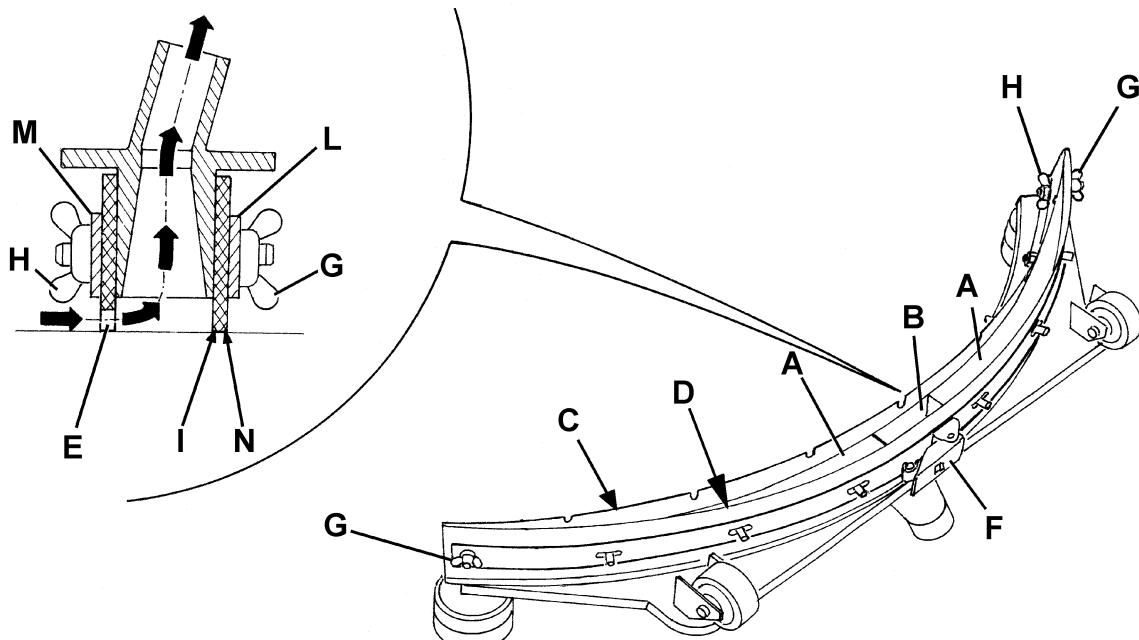

Figure 3
2. Insert the ignition key (42) and turn it to "I".
3. Lower the squeegee (12) by pressing the switch (36).
4. Turn the ignition key (42) to "0".
5. Disconnect the vacuum hose (11) from the squeegee.
6. Loosen the handwheels (15) and remove the squeegee (12).
7. Wash and clean the squeegee. In particular, clean the compartments (A, Fig. 3) and the hole (B) from dirt and debris. Check the front blade (C) and the rear blade (D) for integrity, cuts and tears; otherwise replace them.
2. Check that the edges (E and N, Fig. 3) of the front (17) and rear blades (18) lay down on the same level, along all their length; otherwise adjust their height according to the following procedure:
- Disengage the fastener (F) and loosen the wing nuts (G) to adjust the rear blade (D); then tighten the wing nuts and engage the fastener.
- Loosen the wing nuts (H) to adjust the front blade (C); then tighten the nuts.
3. Check the front blade (C) and rear blade (D) for integrity, cuts and tears; otherwise replace them according to the following procedure. Check that the front corner (I) of the rear blade is not worn; otherwise, overturn the blade to replace the worn corner with an integral one. If the other corners are worn too, replace the blade as shown below:
- Disengage the fastener (F), remove the wing nut (G) and the retaining strip (L), then replace (or overturn) the rear blade (D). Install the blade in the reverse order of removal.
- Remove the wing nuts (H) and the retaining strip (M), then replace the front blade (C). Install the blade in the reverse order of removal.
4. Install the squeegee (12) and screw down the handwheels (15).
5. Connect the vacuum hose (11) to the squeegee (12).
6. If necessary, adjust the squeegee balance adjusting handwheel (16).